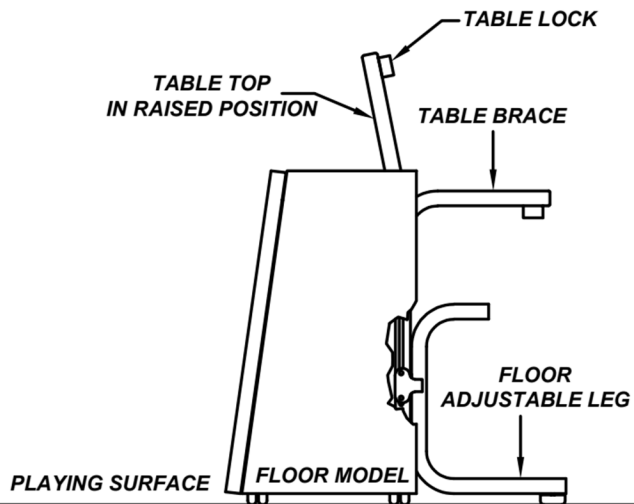

Figure 3
2. When placed in the bleachers, install a platform that fits securely in the bleacher seat, and will safely hold the weight of the scoring table with a ledge to keep from rolling back. (See **Figure 3**) Remove the pins, cotter keys, and the floor adjustable leg and install the bleacher adjustable leg, and reinstall the pins and cotter keys. (See **Figure 1**) Hang adjustable legs not in use on hooks provided on the back side of padding